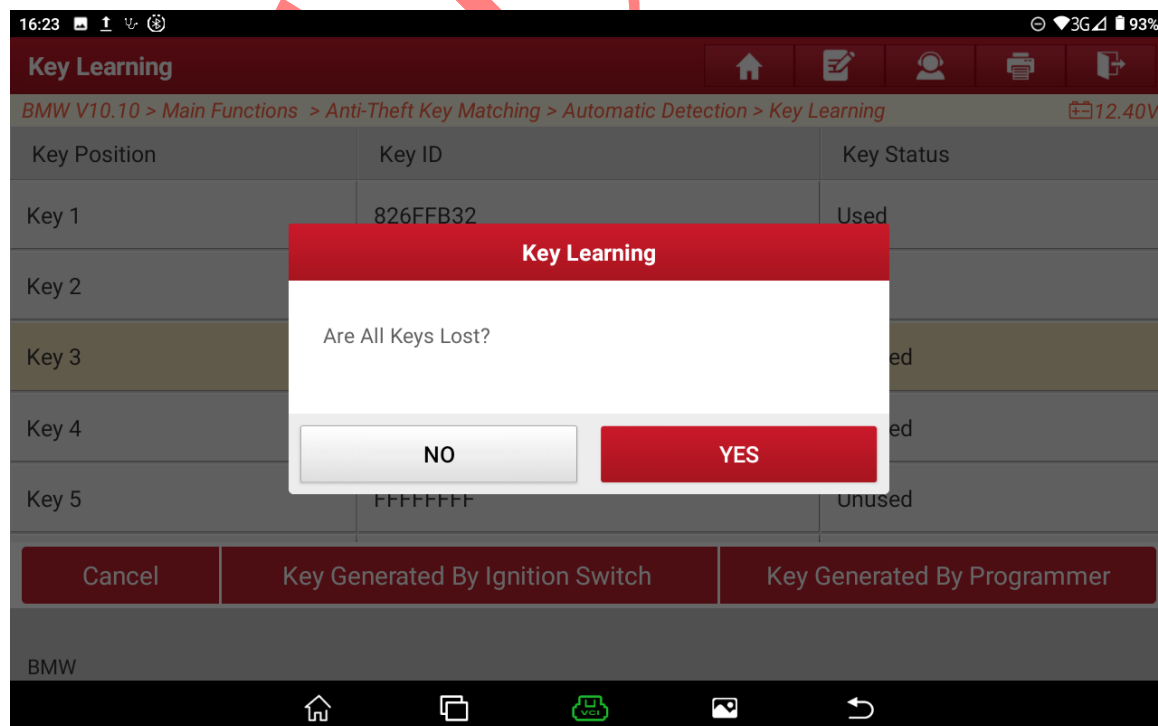

Figure 36
36. Select “No” for key adding. If all keys are lost, enter a 32-digit ISN code and select “Yes”, as shown in Figure 36;